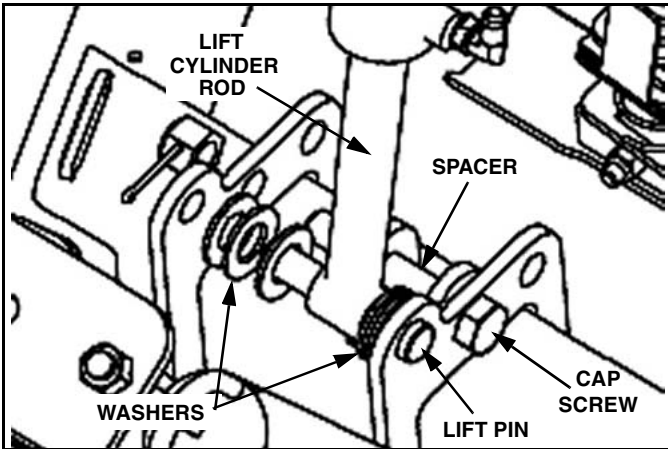

Figure 1-20
- b. Install the lift pin through the left bracket, three washers, lift cylinder rod, three washers and the right bracket. (See Figure 1-20).
- c. Install the 3/4 x 4.5" cap screw through the left lug, spacer and right lug. (See Figure 1-20).